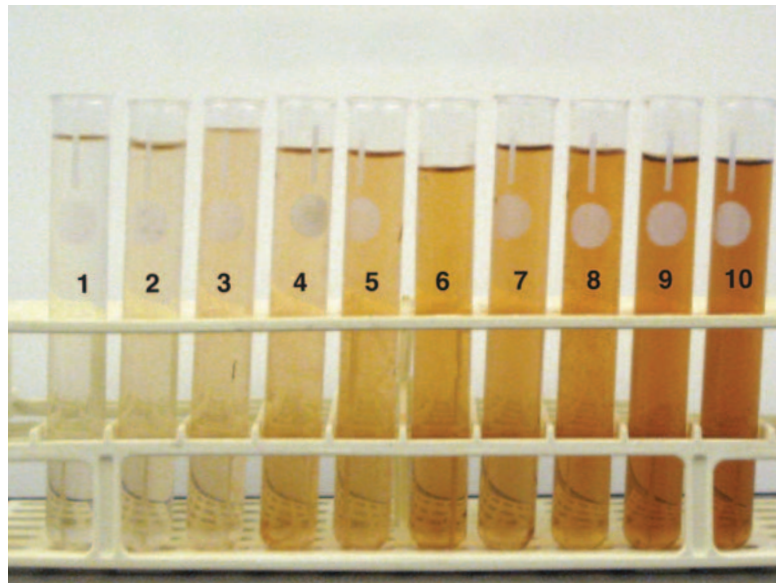

Figure 1. Turnip Peroxidase Color Chart
Qualifying color is a difficult task, but a series of dilutions can be made and then combined on a palette, which can represent the relative changes occurring during the reaction. A color palette/chart ranging from 1 to 10 (Figure 1) is sufficient to compare relative amounts of oxygen produced. Alternatively, the color change can be recorded as a change in absorbency using a variety of available meters, such as a spectrophotometer or a probe system. (Information about the use of spectrophotometers and/or probe systems is found in the Additional Information section of this investigation.)
Step 5 Use the color palette/chart (Figure 1) to help you quantify changes in color over time. Graph your data using Google Sheets.
Step 4 Use the palette/color chart (Figure 1) to help you quantify the changes you observe. Graph your data as color intensity versus pH. What conclusions can you draw from your results?